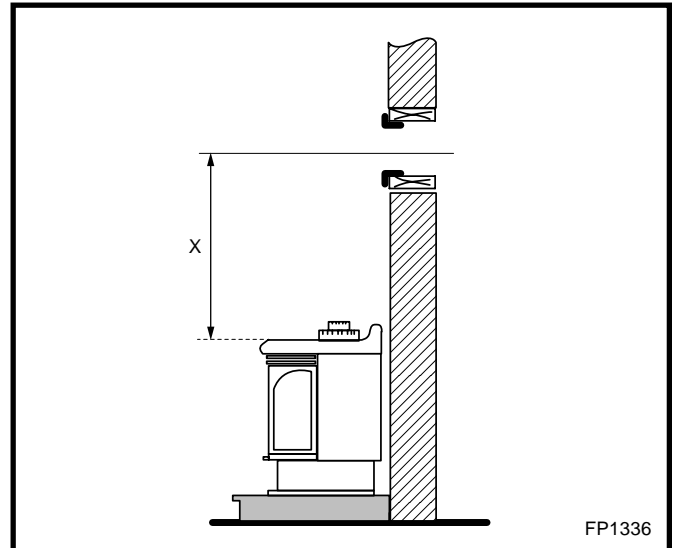

Fig. 16 Vertical length requirement.
Place fireplace into position. (Fig. 16) Measure the vertical length (X) required from the base of the flue collars to the center of the wall opening.